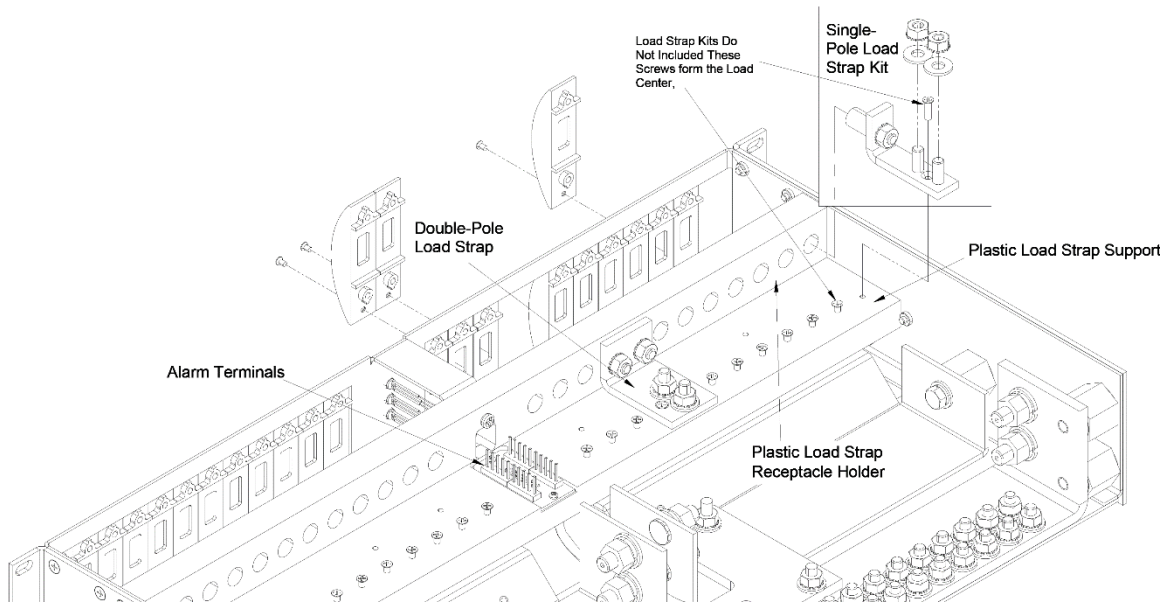

Fig. 2: Installing load straps
c. Remove bottom screw holding circuit breaker cover to selected interrupter positions. Refer to Fig. 2.